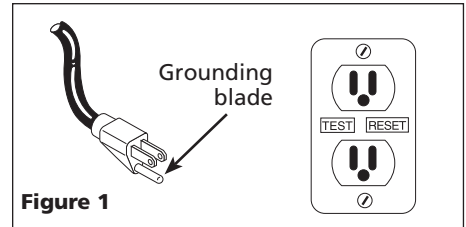

Figure 1
11. This equipment is only for use on 120 volt (single-phase) and is equipped with an approved 3-conductor cord and 3-prong, grounding-type plug as shown in Figure 1.
1. Inserting plug directly into a properly installed and grounded 3-prong, grounding-type receptacle (as shown in Figure 1).